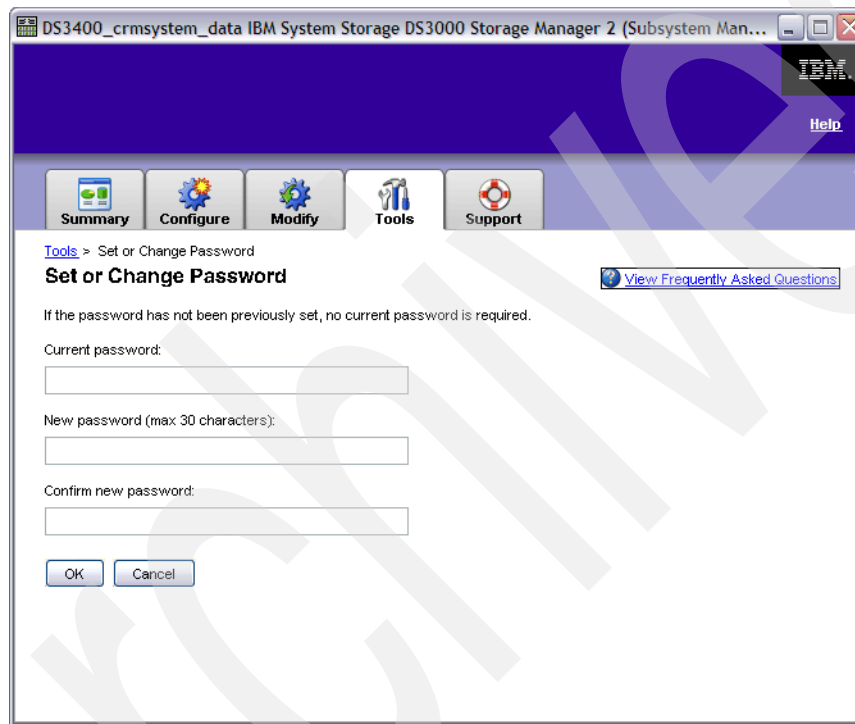

Figure 12-5 Set or Change Password
1. Click **Set or Change Password** (Figure 12-1 on page 258) to open the view (Figure 12-5).